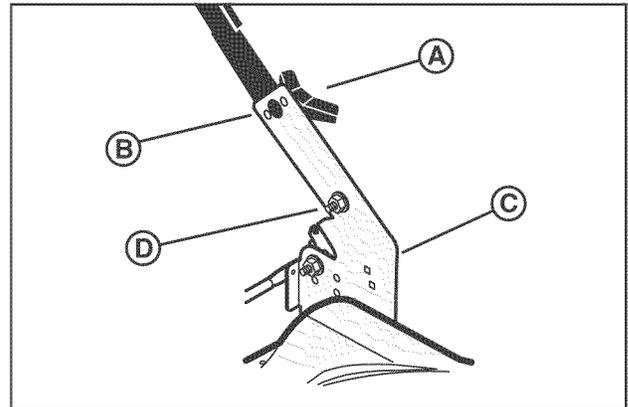
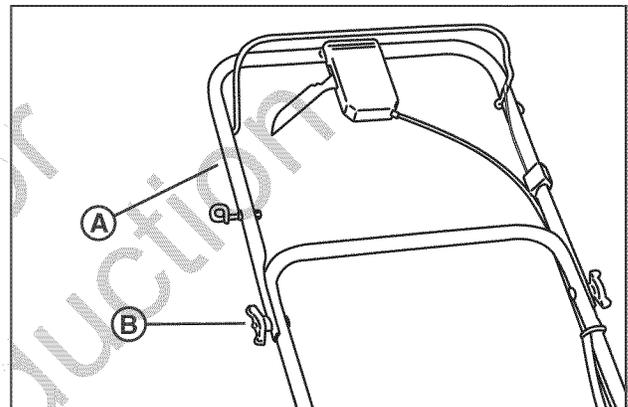

Figure 1: Unfolding the lower handle
Figure 2: Unfolding the upper handle
3. Remove the wingnuts (A, Figure 1), washers (not shown), and bolts (B) from the right and left handle brackets (C).
**NOTE:** Do not remove the lower set of handle hardware (D).
4. Raise the lower handle, aligning it with one of the three sets of holes in the handle brackets (C). Reinstall the bolts, washers and wingnuts.
5. Put the upper handle (A, Figure 2) in the operating (upright) position. Tighten the wingnuts (B).